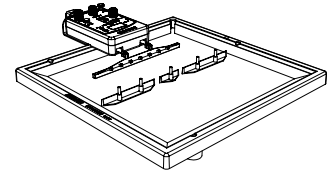

Figure 4.2: Position of Barriers
1. Place the short barrier between the two long barriers in the water to form two openings that are 2 cm long. Put the barriers parallel to the plane wave dipper as shown in Figure 4.2. Set the barriers about 5 cm from the plane wave dipper.